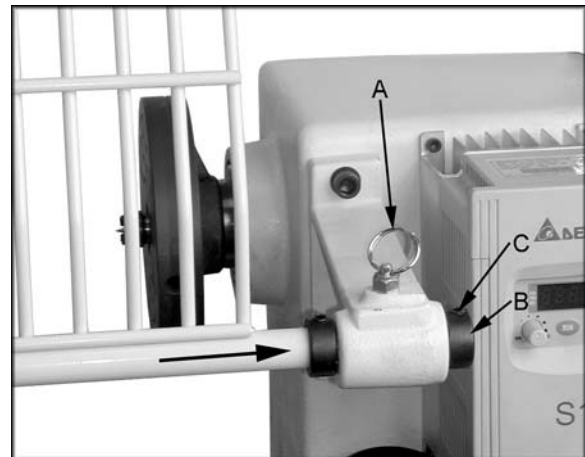

Figure 5
1. Attach guard to the bracket by inserting the rod and lifting up on the plunger (A, Figure 5).
3. Tighten the bushings (B, Figure 5) against the bracket with two setscrews (C, Figure 5).